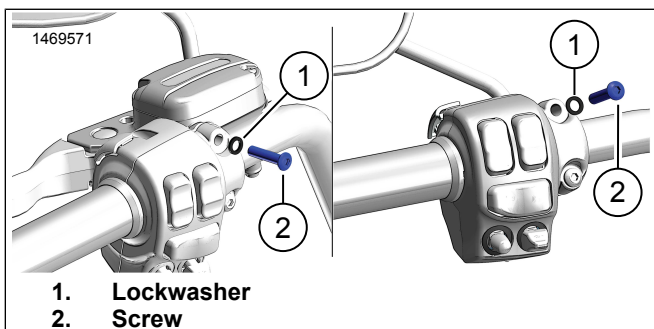

Figure 2. Upper Left Side Clutch/Mirror Mount Screw and Washer
1. See Figure 2. Remove upper screw (2) and washer (1) from left side clutch mount. Discard.
2. **Livewire Models:** See Figure 2. Remove upper screw (2) and washer (1) from left side mirror mount. Discard.